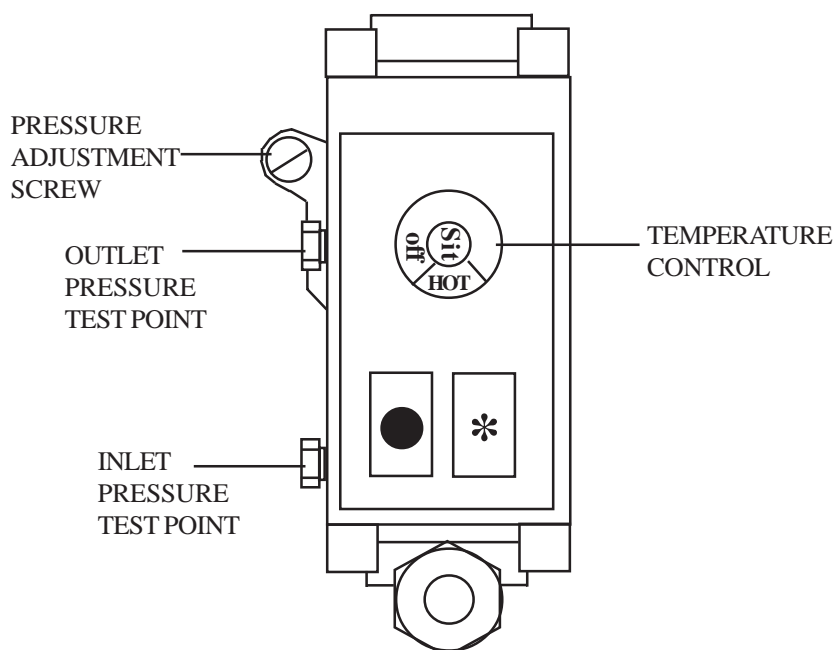

Fig. 5
- 5.5.1 Referring to fig. 5, remove Outlet Pressure Test Point cover and connect Gas Pressure Test Gauge.
- 5.5.7 Referring to Fig. 5 and Table 1 (para 2.1), set Multifunctional control Pressure Adjuster to provide the required setting pressure for the installation.